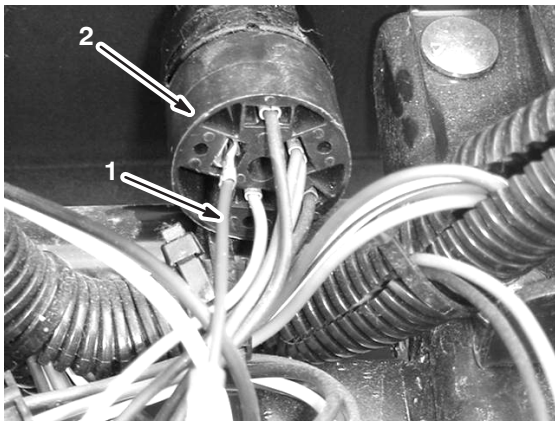

Figure 4
- B. If you are installing this kit on a 2003 model year vehicle or older, install the ignition switch lead convertor to the key start lead on the front key start harness. Install the convertor lead to the ignition switch (Fig. 4).